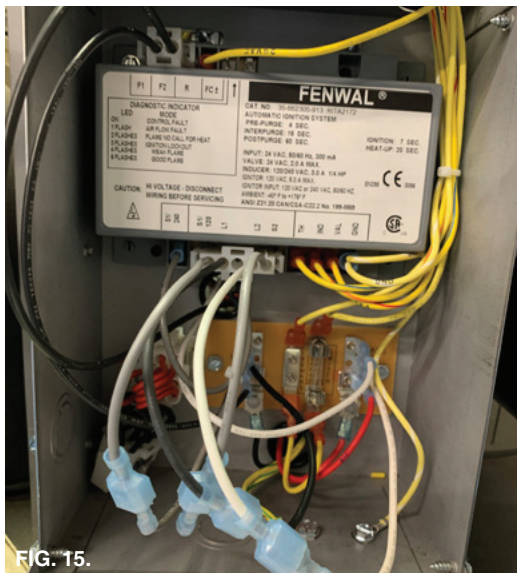

FIG. 15.
14. Connect the Orange/yellow wire labeled IND to the Orange/yellow wire labeled IND that comes from the PCBA as shown in Fig. 15.
14. Connect L1, L2, 120 VAC and S2 as shown in FIG. 15.
Connect L1, L2, 120 VAC and S2 as shown in Fig 15.